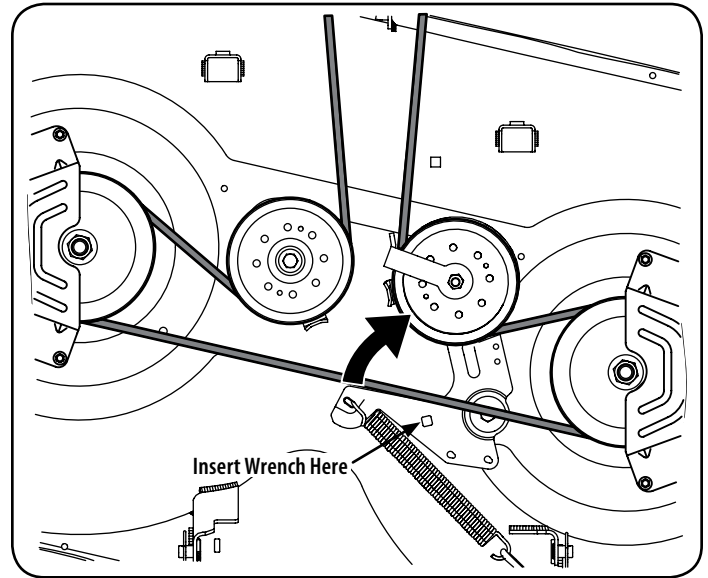

Figure 28
- c. Working on the right side of the tractor, insert a  $\frac{3}{8}$ " drive ratchet wrench, set to tighten, into square hole found on the idler bracket. See Figure 28.